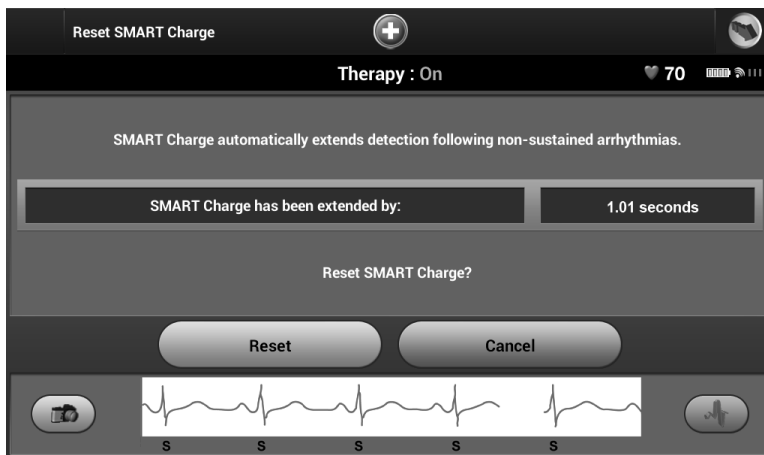

Figure 48: *Reset Smart Charge screen*
3. Select the Smart Charge button. The Reset Smart Charge screen appears (Figure 48).